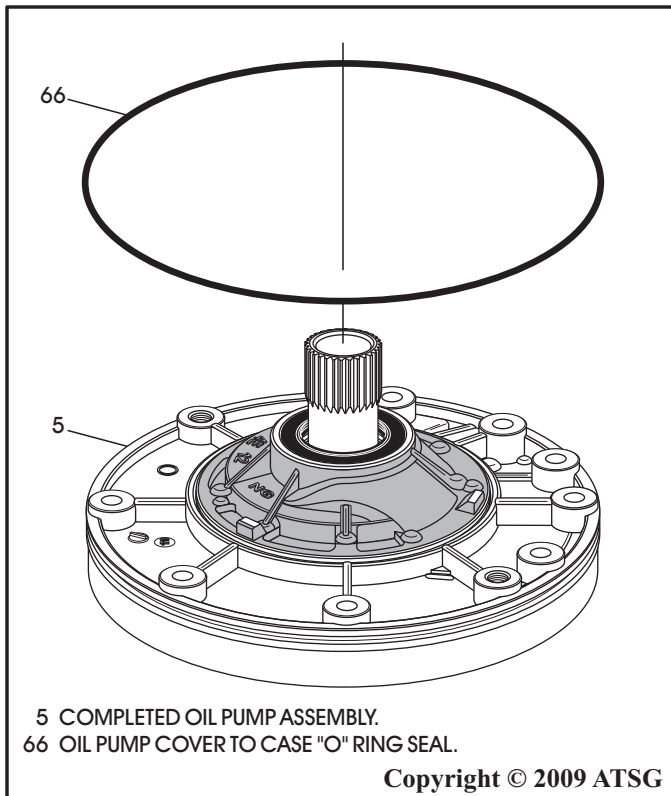

Figure 93
16. Install new oil pump to case "O" ring seal into groove in pump cover, as shown in Figure 93.